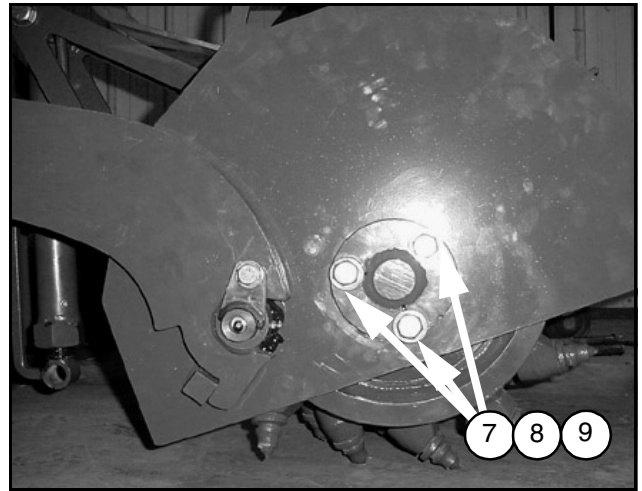
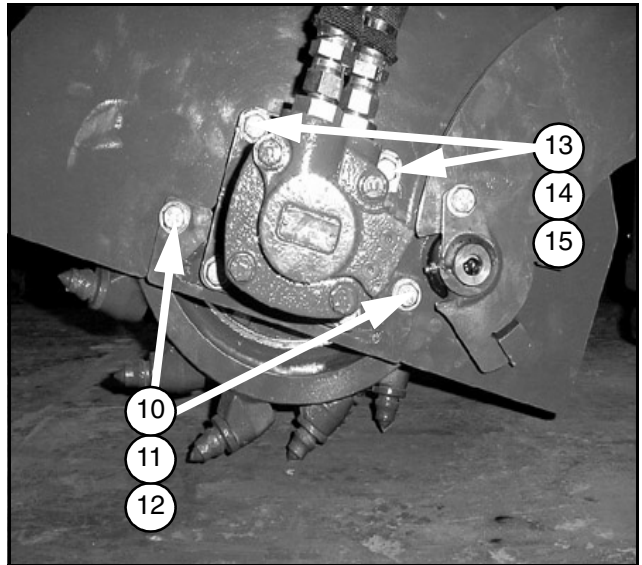

Figure 27.
Figure 28.
5. Insert the dead shaft through the chassis sideplate into the drum bearing as shown in Figure 27.
6. Install three 5/8" –11 bolts (7), six 5/8" washers (8) and three 5/8" –11 nuts (9) through the dead shaft and into the chassis sideplate. Do not tighten.
7. Install two 1/2" x 1-1/2" – 13 bolts (10), four 1/2" washers (11), and two 1/2" – 13 (12) nuts through the motor mount plate into the chassis as shown in Figure 28. Do not tighten.
8. Install two 1/2" x 2 – 13 bolts (13), four 1/2" washers (14), and two 1/2" – 13 (15) nuts through the motor into the chassis and torque to 110 lbs-ft. (149 N-m) as shown in Figure 28.
9. Torque the motor mount plate bolts (10) to 110 lbs-ft. (149 N-m).
10. Torque the dead-shaft bolts (7) as shown in Figure 27 to 220 lbs-ft.